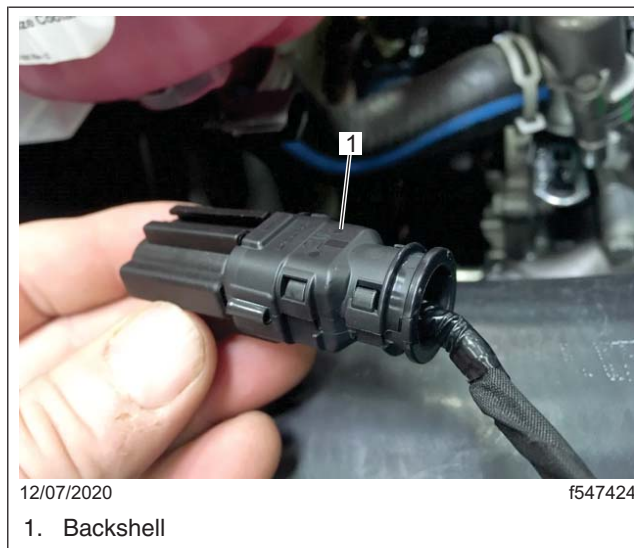

Fig. 5, Backshell Installed
7. Install the backshell (23-13302-633) on the low coolant sensor connector. See Fig. 5.